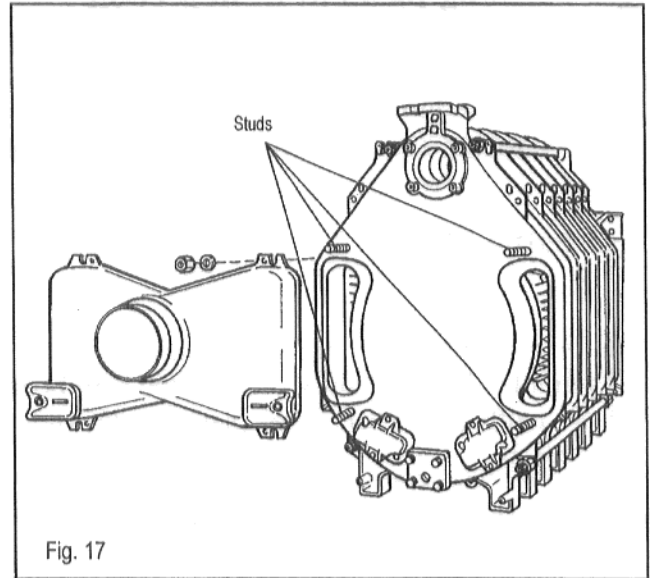

Fig. 17
- Place the flue gas collector on the studs and tighten with washers and nuts provided to ensure a gas tight seal (Fig. 17).